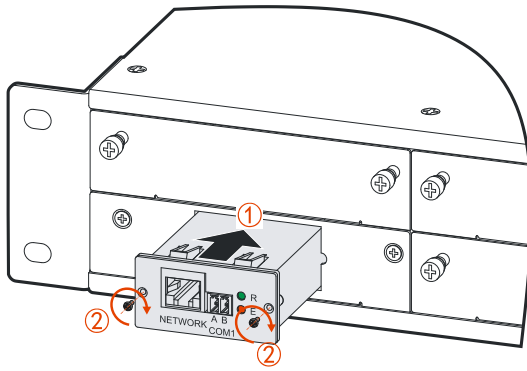

Figure3-16 Install SNMP card
Step 2 Install SNMP card on the system monitor box, as shown in Figure3-16.